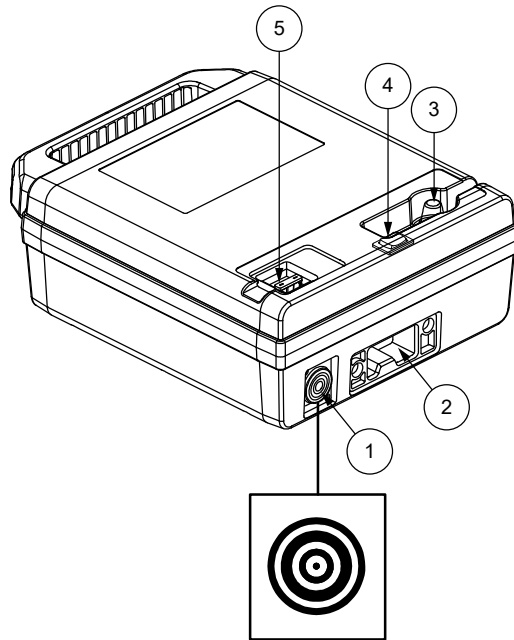
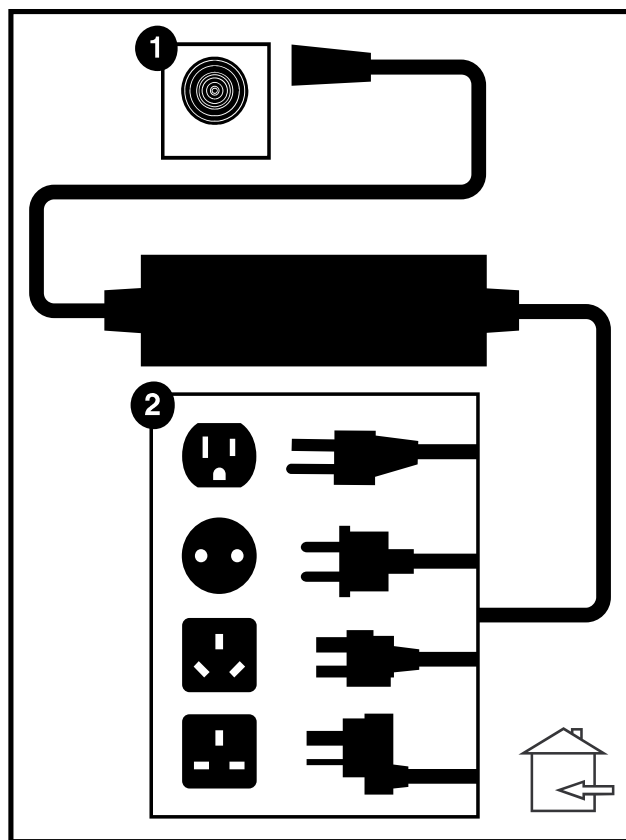

Figure 2. Battery Pack
Figure 4. Off-board Battery Charger
Your scooter is equipped with an innovative easy-to-remove Lithium-Ion battery pack. Refer to III. "Batteries and Charging" for battery pack replacement instructions. See figures 2 and 3.
The off-board battery charger, when plugged into the charger power cord receptacle and a standard electrical outlet, charges the scooter's batteries. See figure 4.
The end of the magnetic battery charger connector (see figure 4) plugs into the magnetic battery receptacle (see figures 2 and 10). Inspect the magnetic battery charger connector and receptacle before each use. If there is any debris or contaminants, wipe clean with a soft dry cloth. If there is any damage, discontinue use and contact your authorized Dealer.
**NOTE:** Charge your scooter's battery prior to using it for the first time. Fully charge your scooter's battery using the charger supplied with the scooter. Plug the charger into your scooter first and then plug the charger into electrical outlet. See figure 2.